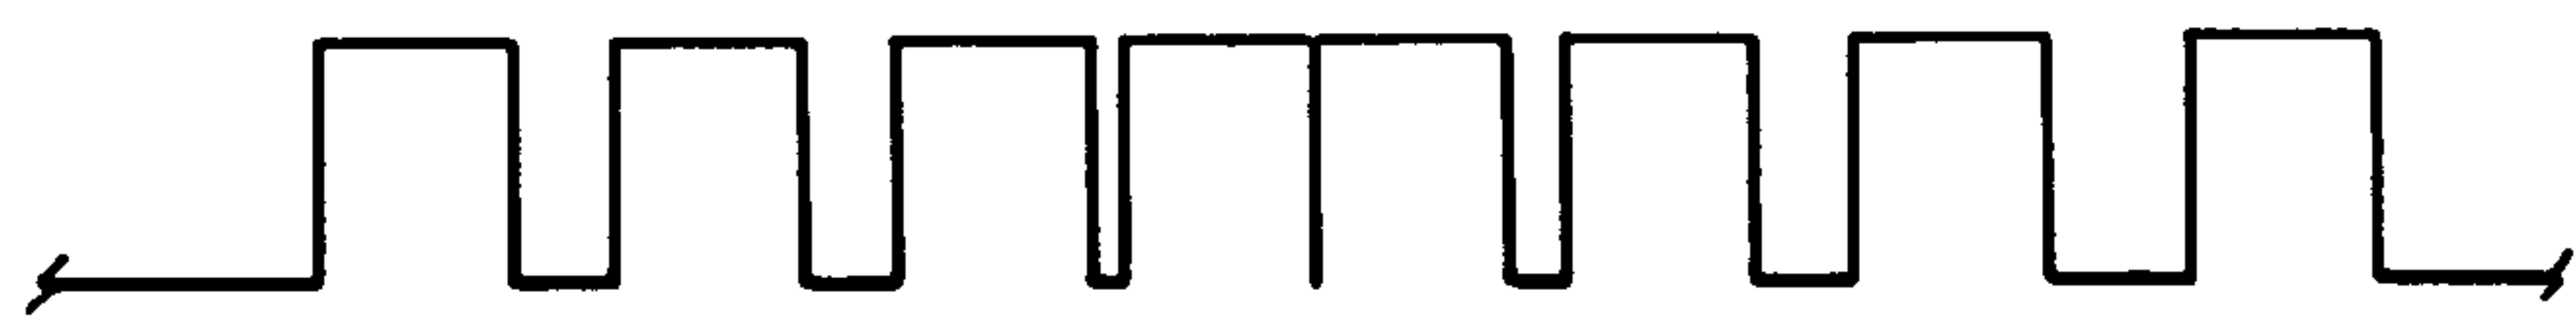
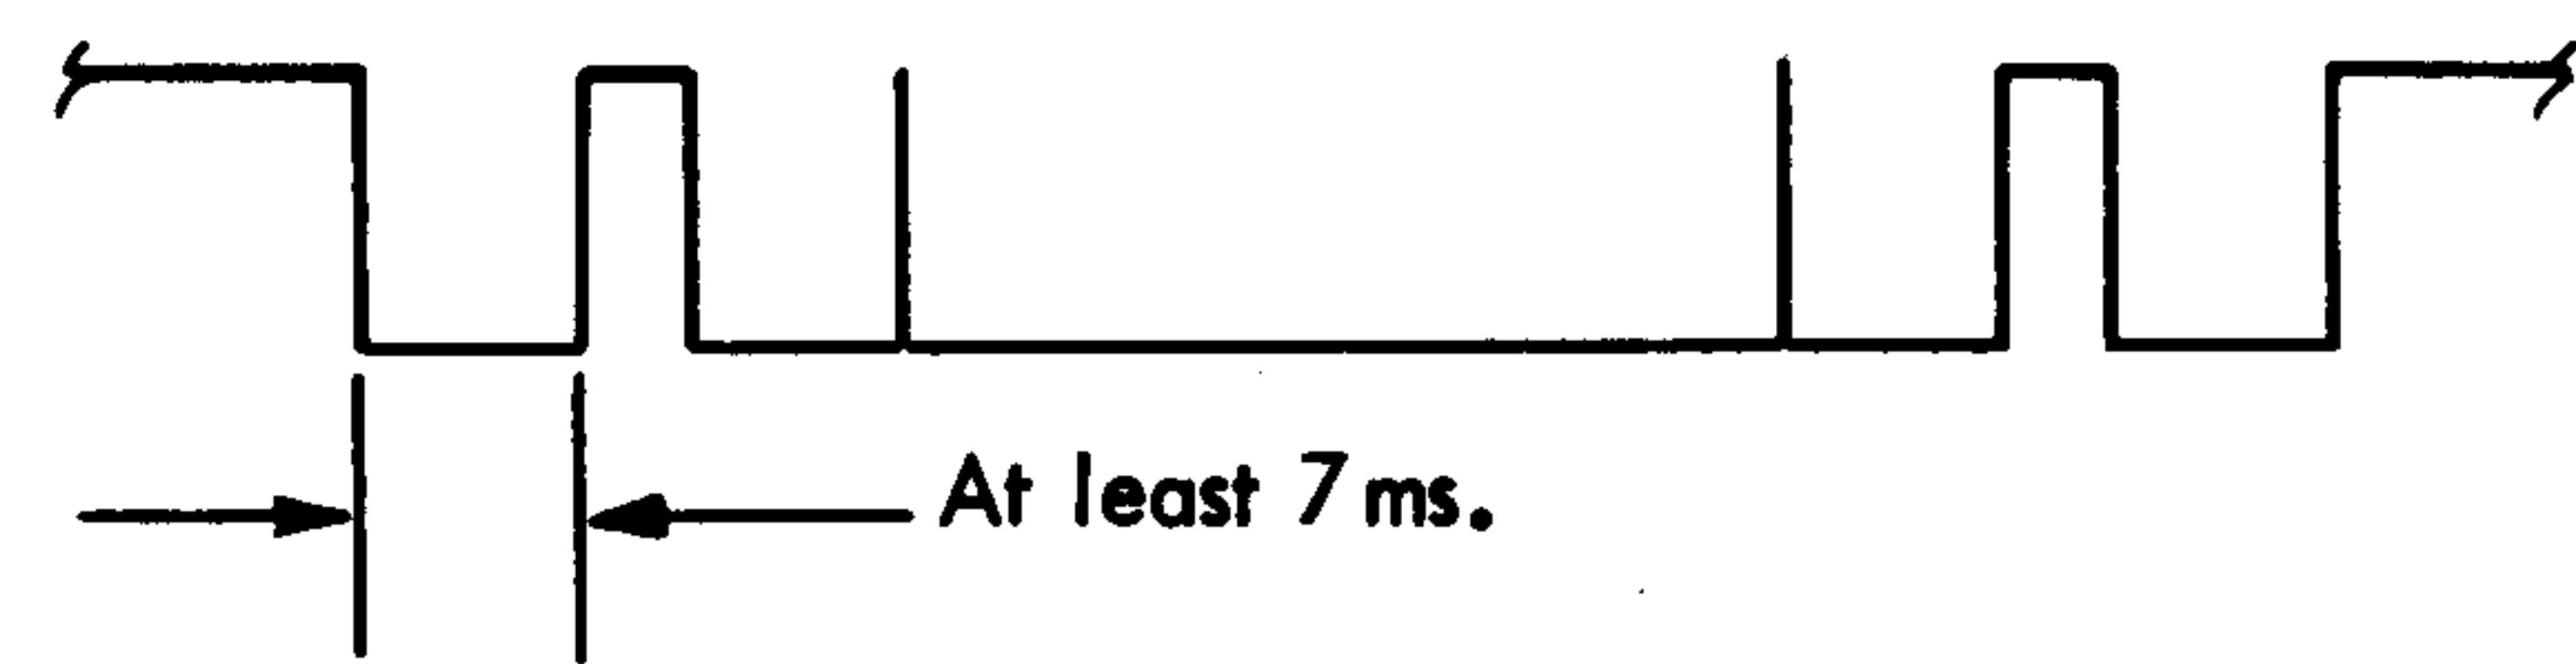

Figure 1-4. Short Stroke
Figure 1-5. Long Stroke
2. Set address 50 in the access register. Set and reset the register and observe 01A5E12F with an oscilloscope. If the signal looks like Figure 1-4, the integrator pulse is too narrow and should be increased so the picture resembles Figure 1-5.
3. Set and reset different addresses in the access register, detent safety must resemble Figure 1-5 on any address change greater than 50 cylinders. Additional spikes may be seen in the long gap (Figure 1-5) but are of no significance.
4. Address changes from 10 to 49 should also resemble Figure 1-5, but the shorter strokes may begin to resemble Figure 1-4. Changes of less than 10 cylinders will be very erratic about indicating not detent safety condition.